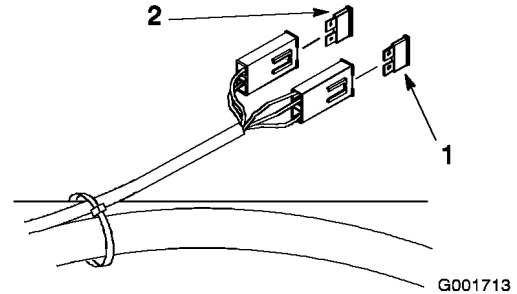

Figure 39
1. Unlatch the seat and raise the seat to gain access to fuse holder (Figure 39).
3. Install a new fuse (Figure 39).